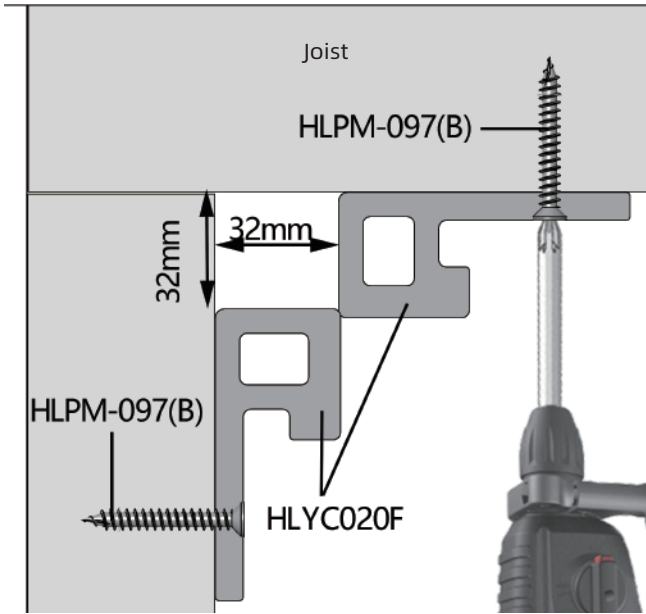

Fig21
1. Install the HLYC-020F. as shown in Figure 21: